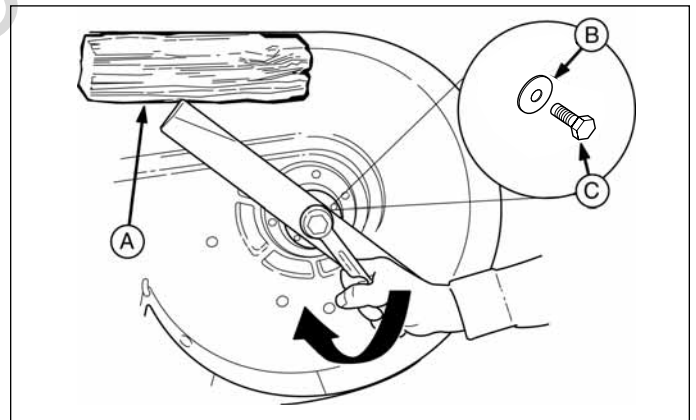

Figure 28. Blade Installation
3. Remove the bolt (C, Figure 28), blade washer (B), and blade.
6. Reinstall the blade (Figure 28) with the tabs pointing up toward the mower deck as shown.
7. Reinstall the blade washer (B, Figure 28), concave side up, and bolt (C). Use a wooden block (A) to prevent blade rotation while tightening the hardware. Torque hardware to 50-60 ft-lbs (68-81 N.m.).